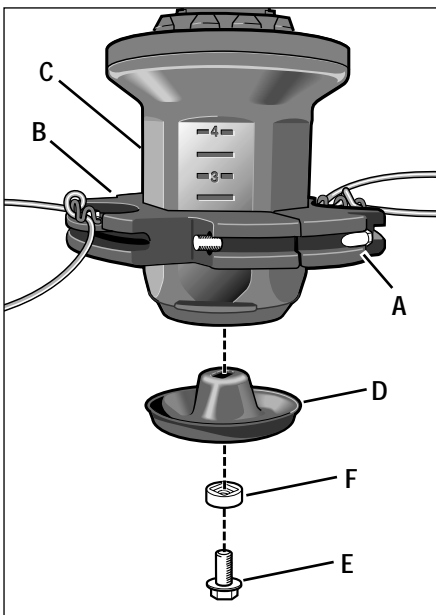

Figure 5-3
2. Two bolts (A, Figure 5-3) secure the trimmer head (B) to the spindle head (C). Loosen both bolts (not the nuts) just enough to open up the trimmer head and allow it to slide down the spindle head and past the two stops. Do not attempt to remove the bolts completely – they are permanently attached.
NOTE: It may be necessary to first remove the wear cup (D, Figure 5-3) when removing the trimmer head. See Step 4 for the procedure.
4. If the wear cup (D, Figure 5-3) is also worn, replace it. Use a 1/2" socket wrench to remove the screw (E, Figure 5-3) and washer (F). Install the new wear cup and reinstall the washer and screw. Tighten the screw securely.